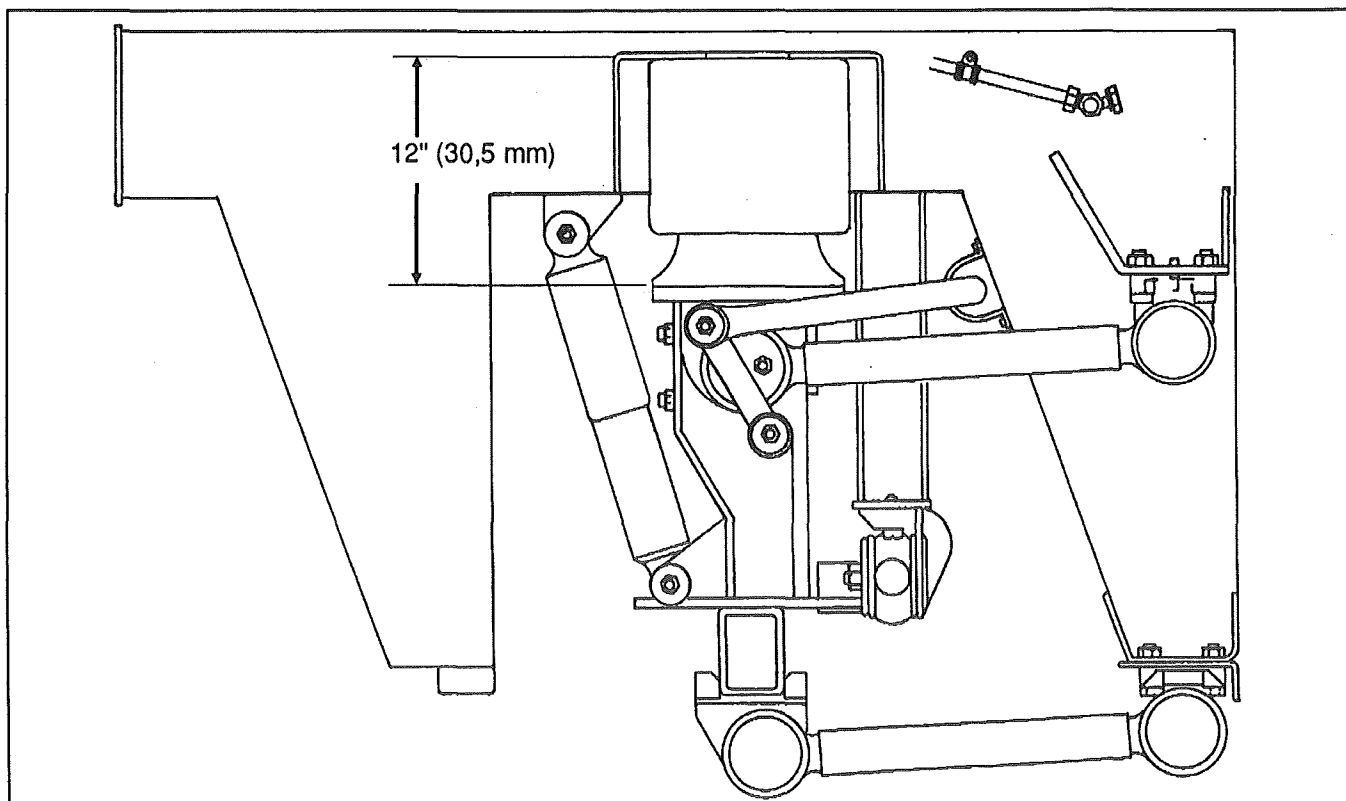

FIG. 23 - Clearance between axle and body (same on all axles)
To ensure correct vehicle ride height, it is necessary to check and adjust, if required, the height control valves. The right vehicle body height which should be maintained is shown in figure 23. It should not be necessary to make an adjustment at this point under normal service conditions. However, if an adjustment is necessary, it is made by changing the position of the overtravel lever in relation to the overtravel control body. The lever should be moved up to raise the level of the vehicle, and down to lower it. Check that main air pressure is at normal operating pressure and raise the vehicle to the specified height.
1. With the vehicle at normal operating air pressure, check the clearance between the axle and the body (refer to figure 23). This dimension should be 12" (305 mm)  $\pm$  1/8" (3 mm) on all axles.
**NOTE:** The measure should be taken from under the upper air spring support on subframe to top of the lower air spring support on axle (refer to figure 23 for more details).